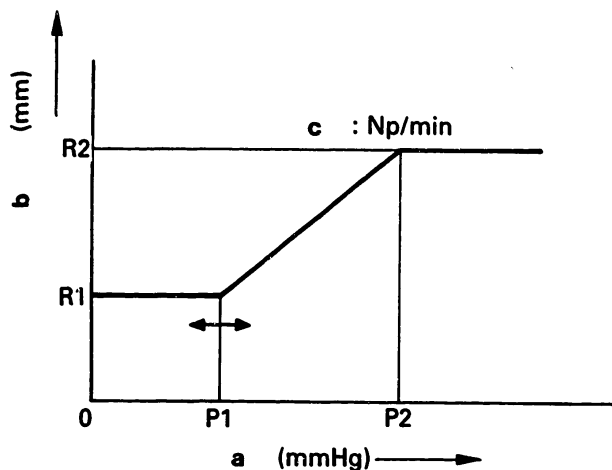

Fig. 108
- 2) Adjust the screw (65/62) so that the control rack begins moving from "R1" mm in "fuel-increase" direction when the boost pressure reaches "P1" mmHg. Then lock the screw with the nut (65/63). (Figs. 108 and 109)